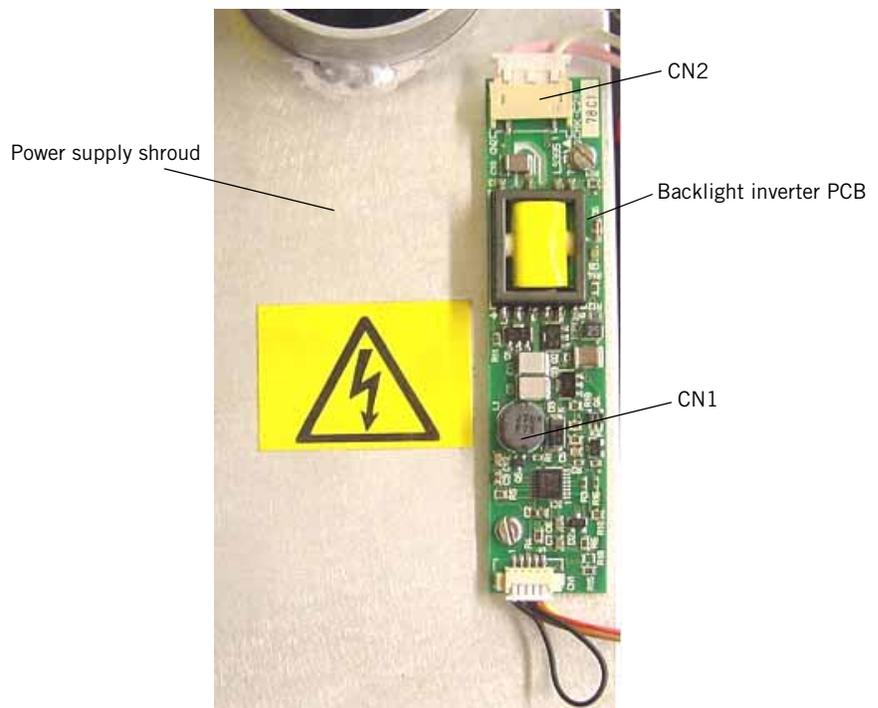
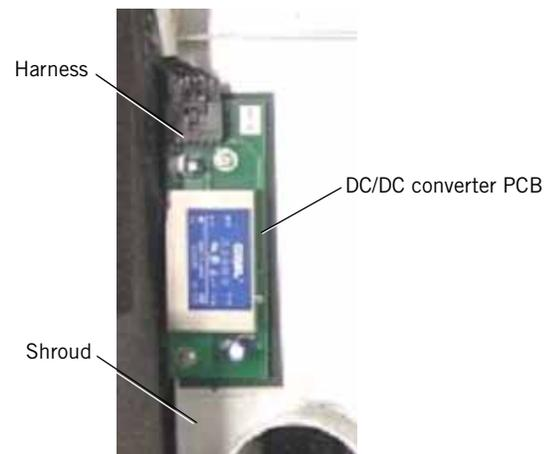

Figure 9-10: Backlight Inverter PCB Connections (9.5-in. GUI)
Figure 9-13: DC/DC Converter PCB Connections (10.4-in. GUI)
2. For 9.5-in. GUI, disconnect cables from the backlight inverter PCB (see Figure 9-10). For the original 10.4-in. GUI, disconnect cable from the DC/DC converter PCB (see Figure 9-13).
Follow these three steps to remove the backlight inverter PCB (see Figure 9-10 for 9.5-in. GUI ventilators). Reverse removal steps to install.
Follow these steps to remove the DC/DC converter PCB (Figure 9-13) for 10.4-in. GUI ventilators. Reverse removal steps to install.